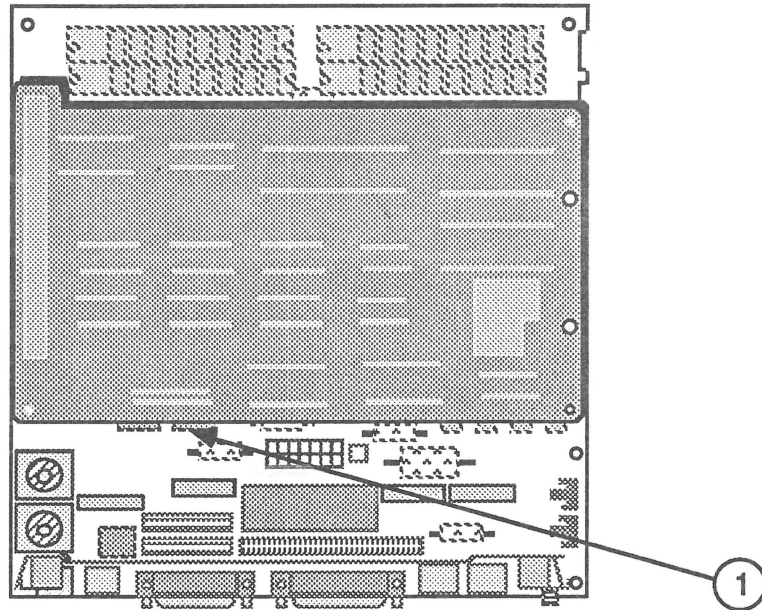

FIGURE 3
9. Plug the cable into the 26-pin connector on the card (Figure 3, #1).